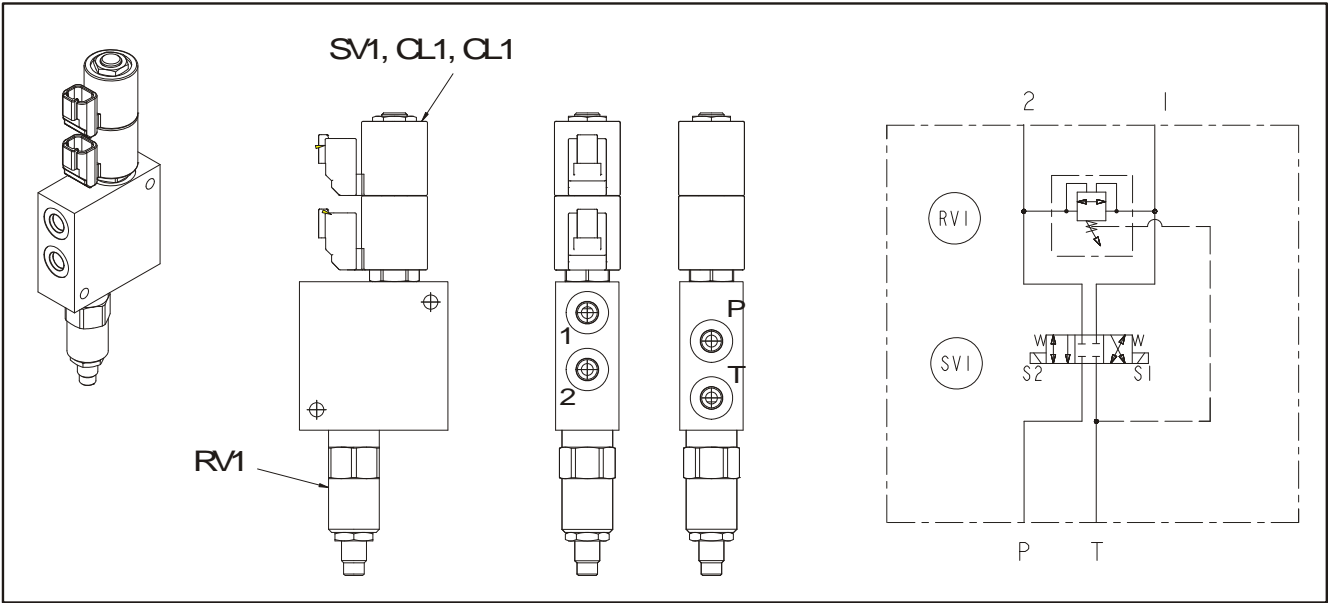

Figure 4-20. Powerdeck Valve (Single)
- Refer to Figure 4-20., Powerdeck Valve (Single).